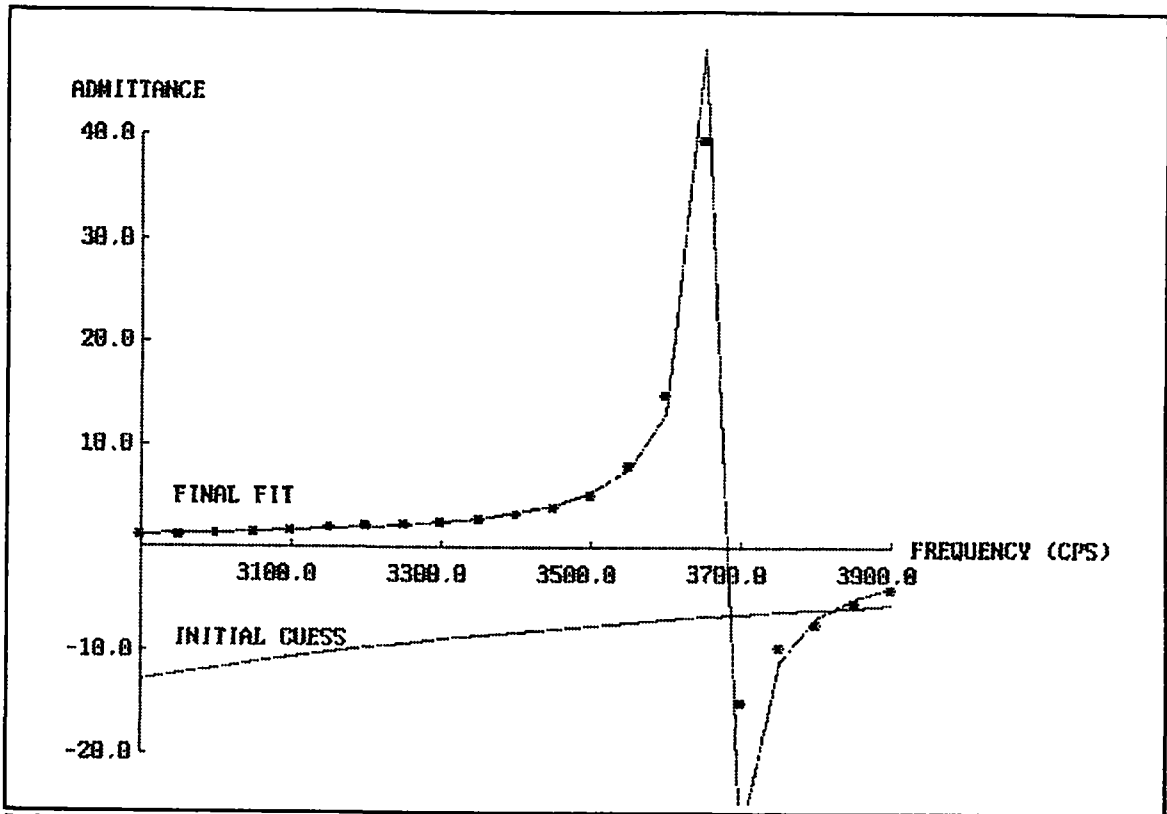

FIG. 8-1 Screen Image of admittance circuit fit
*Graph Production* - Up to this point all graphics operations have been part of the synthesis phase which accumulates the graph object in the database. The production of a graphical image from this object is accomplished via the @SHOW command (for screen display) or the @DRAW command (for print file generation). However, the particular form of graphics production is also governed by the GRAPHICS metacommand which precedes the PROBLEM statement. When this command is present, it overrides the type of the production command, causing output to be routed to "SCREEN", "FILE", or "BOTH". In this application, the graph image was routed to "BOTH" screen and print file. The resulting screen and print images are shown in Figures 8-1 and 8-2.